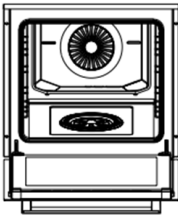
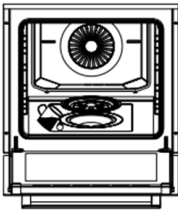
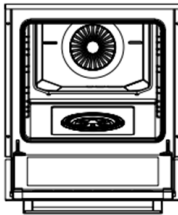

Figure 12
Figure 13
Figure 14
2. Open the cover of the appliance (see figure 12). Remove the water tank cover and fill the tank (see figure 13). Then, close the water tank cover (see figure 14). Close the cover of the appliance and preheat it for 10 minutes. After preheating, you can place the food in the appliance.